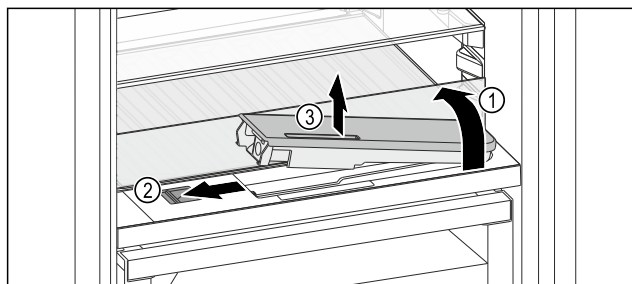

Fig. 113
- ▶ Lift the glass panel and fold towards the rear until it clicks into place Fig. 113 (1).
- ▶ Slide the slider Fig. 113 (2) to the left.
- ▶ Remove the water tank Fig. 113 (3).